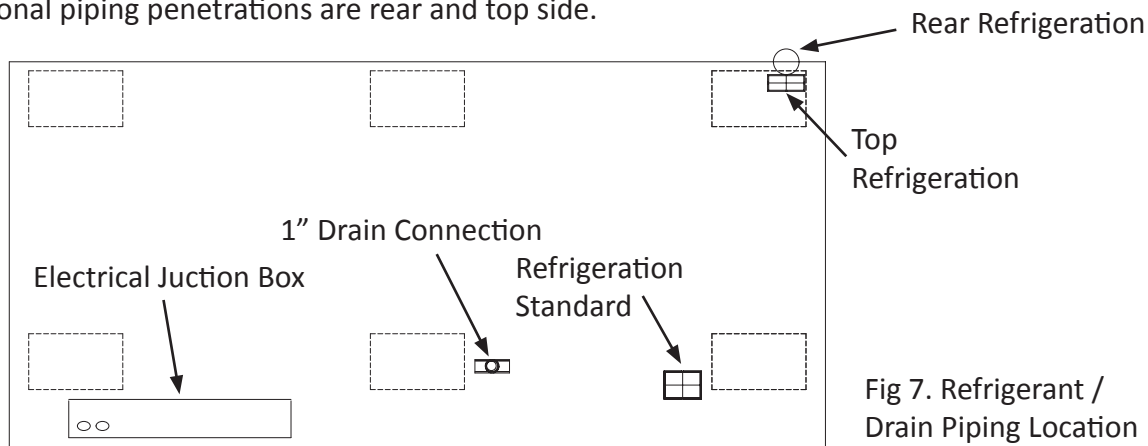

Fig 7. Refrigerant / Drain Piping Location
- Standard piping penetration is located at the front-right area of the case, consisting of a pre-cut access punch-out. (Fig. 7)
- The drain outlet is located in the front-center of the case. (Fig. 7)
- Electrical hookups are made to a junction box located at the bottom-front-right of the case. (Fig. 7)